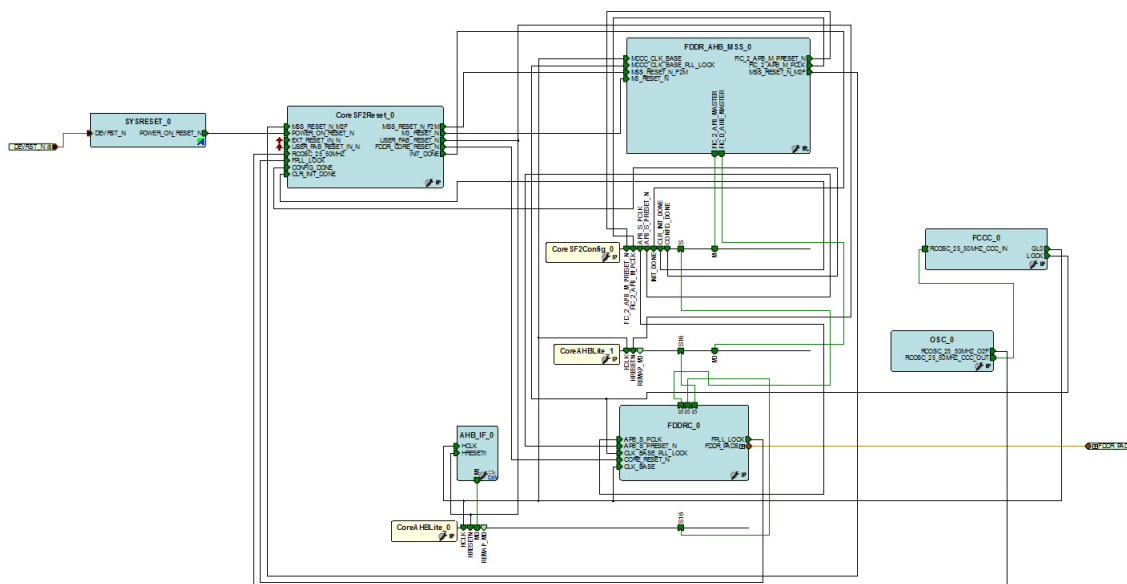

Figure 2-24 • SmartDesign Canvas
13. Make the other connections in the SmartDesign canvas, as shown in Figure 2-24.